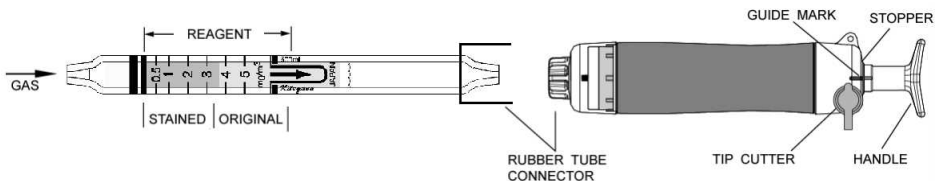

Fig.1
- ① Break both ends of the detector tube.
- ② Insert the detector tube into the aspirating pump securely as shown in Fig.1. (Arrow mark shall point to the pump.)
- ③ Align the guide marks on the shaft and stopper of the aspirating pump.
- ④ Pull the pump handle at a full stroke until it locks and wait for 20 seconds or until the completion of sampling is confirmed with the flow indicator of the pump. (See descriptions about the flow indicator in the instruction manual of the pump.)
- ⑤ Push back the handle without removing the detector tube from the rubber tube connector so that air in the pump will be discharged perfectly. Then repeat the step ③~④ four times.
- ⑥ On completion of sampling, read the scale at the maximum point of the stained layer.
- ① Temperature; The scale is calibrated based on the temperature of 20 °C (68°F). Readings obtained in other temperature circumstances should be corrected with the following temperature correction table.